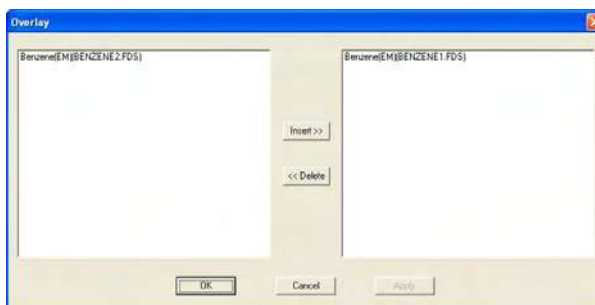

Fig. 7-19
- (3) Click **From the windows**. A window as in Fig. 7-19 will appear.